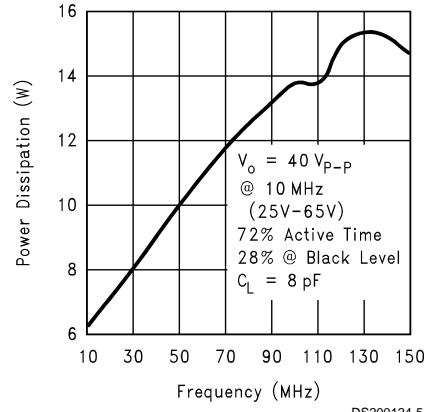

FIGURE 6. Power Dissipation vs Frequency
*Figure 6* shows the total power dissipation of the LM2412A vs. Frequency when all three channels of the device are driving an 8 pF load. Typically the active time is about 72% of the total time for one frame. Worst case power dissipation is when a one on, one off pixel is displayed over the active time of the video input. This is the condition used to measure the total power dissipation of the LM2412A at different input frequencies. *Figure 6* gives all the information a monitor designer normally needs for worst case power dissipation. However, if the designer wants to calculate the power dissipation for an active time different from 72%, this can be done using the information in *Figure 14*. The recommended input black level voltage is 1.9V. From *Figure 14*, if a 1.9V input is used for the black level, then power dissipation during the inactive video time is 2.7W. This includes both the 80V and 12V supplies.
3. Subtract the 0.8W from the power dissipation from *Figure 6*. For 100 MHz this would be 13.8 – 0.8 = 13.0W.
The LM2412A case temperature must be maintained below 100°C. If the maximum expected ambient temperature is 70°C and the maximum power dissipation is 13.8W (from *Figure 6*, 100MHz) then a maximum heat sink thermal resistance can be calculated: